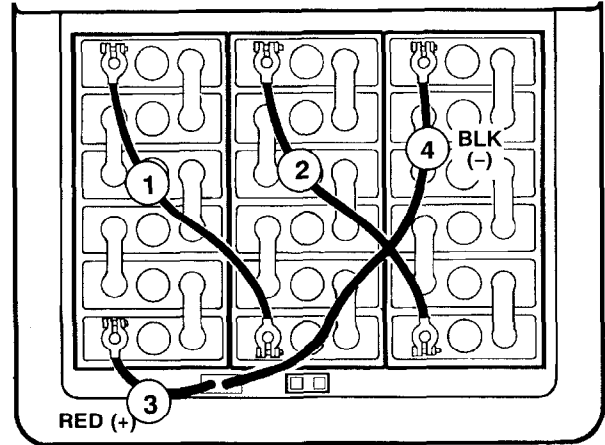

FIG. 5.
4. Connect cables to battery posts in numerical order as labeled (RED to POSITIVE & BLACK to NEGATIVE). Cover post with rubber boot. (Figure 5)